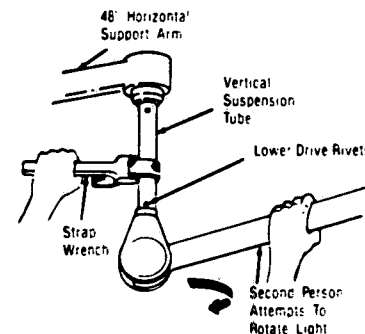

Figure 3-4. LOWER DRIVE RIVET INSPECTION.
3.3.5 Check Vertical Suspension Tube Rivets (See Figures 3-4 and 3-5)